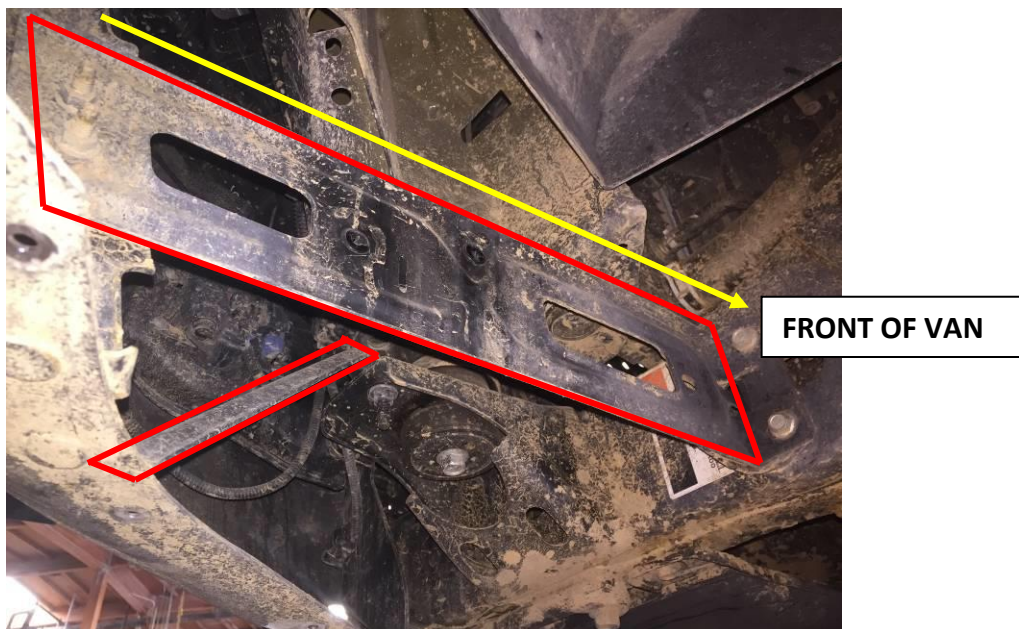

Figure 2. Remove two bumper support bars underneath the vehicle.
2. With the plastic inner fender removed, you will have access to 2 different bumper support bars (**Figure 2**). One is flat and runs left to right from the frame to the inside of the bumper, and the other is curved and runs from the body mount to the bottom rear corner of the bumper. The long flat support bar is hooked into the frame so you might need to lift up on it before it can be removed.